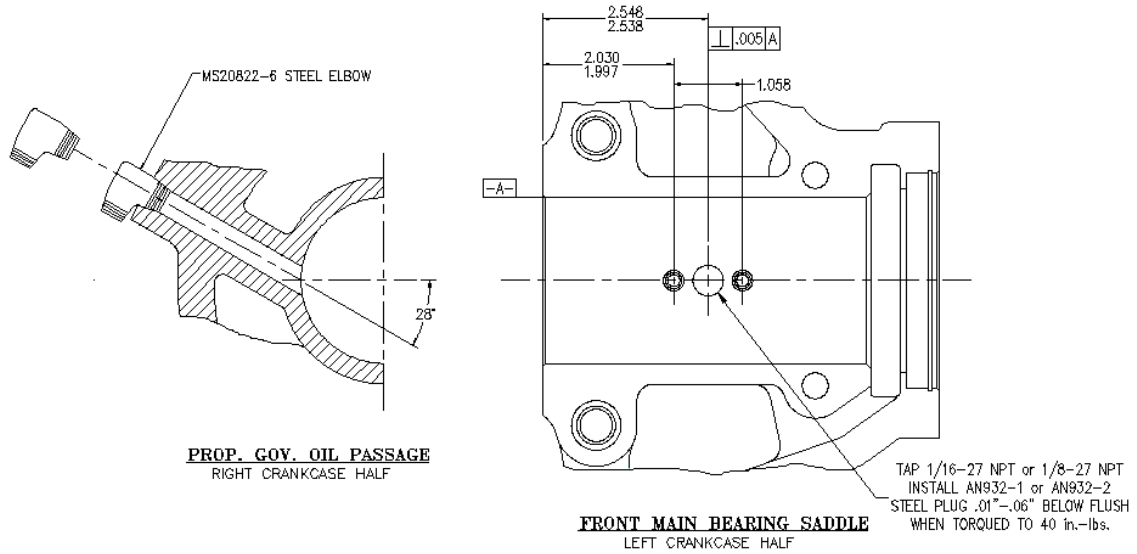

Figure 3: Depiction of Constant Speed Operation
7.0 CONVERSION TO CONSTANT SPEED: Crankcases reworked in accordance with this Service Instruction may subsequently be converted for operation with constant speed propellers, if desired, by exchanging crankshaft and reconfiguration of the crankcase oil passages in accordance with Figure 3 below. Proceed as follows:
"Plugged oil drain hole in left crankcase half and installed governor oil supply elbow in right crankcase half per ECi Service Instruction 04-4, Figure 3."